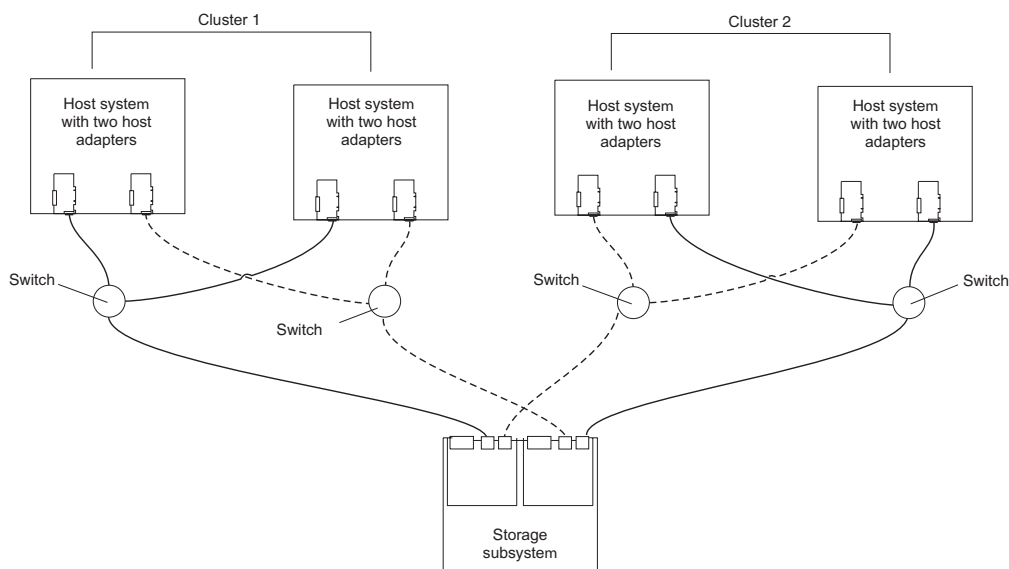

Figure 59. Example of a two-cluster configuration
- Two clusters, as shown in Figure 59 on page 88
Figure 59 on page 88 shows an example of a two-cluster configuration.